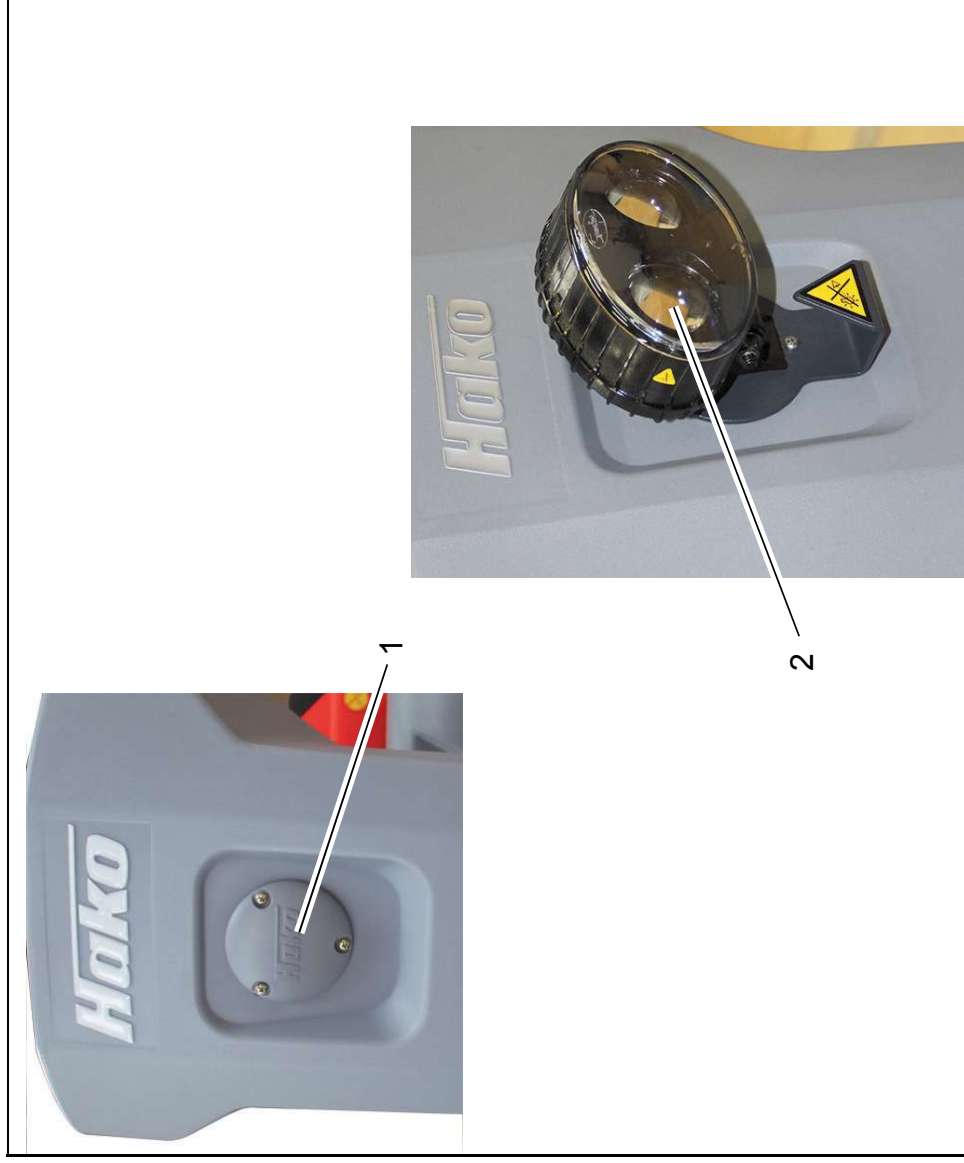

Fig.1
1. Remove the cover (Fig. 1/1) at the steering column (bolts are no longer required).
3. Attach the Blue Spot with seal and EJOT bolts to the steering column (Fig. 1/2) with a tightening torque of 1.1 Nm.